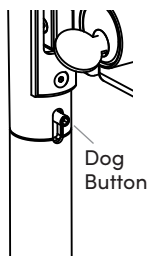

Figure 1-2
- The SMU9000 Device Assembly is un-dogged when the Dog Button is in the down position. Refer to Figure 1-2.